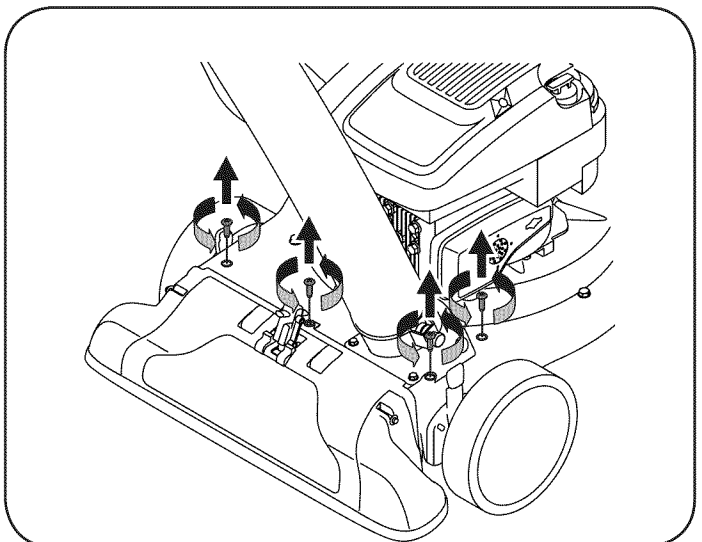

Figure 28
6. Remove the four screws on the upper housing that secure the nozzle cover. See Figure 28.